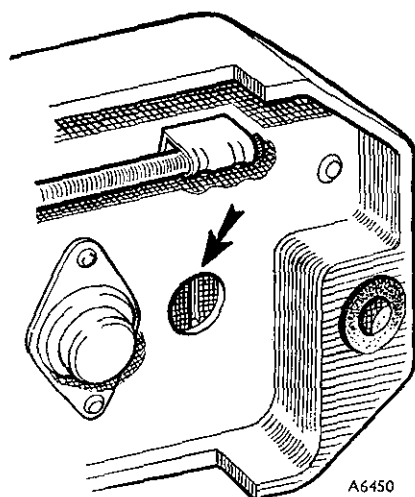

Fig. N.15
- (e) Turn the adjuster slot gradually until the voltmeter registers a stable reading within the correct voltage limits (see Fig. N.15). Only a small adjuster movement is needed to effect an appreciable difference in the voltmeter reading.